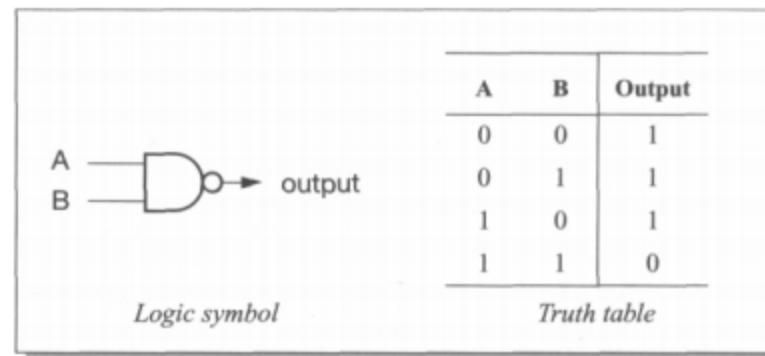

Figure 1.3 The logic symbol and truth table for a NAND gate.
- The concepts that the logic designer works with are illustrated in Figure 1.3, and consist of the following 'views' of the logic gate: